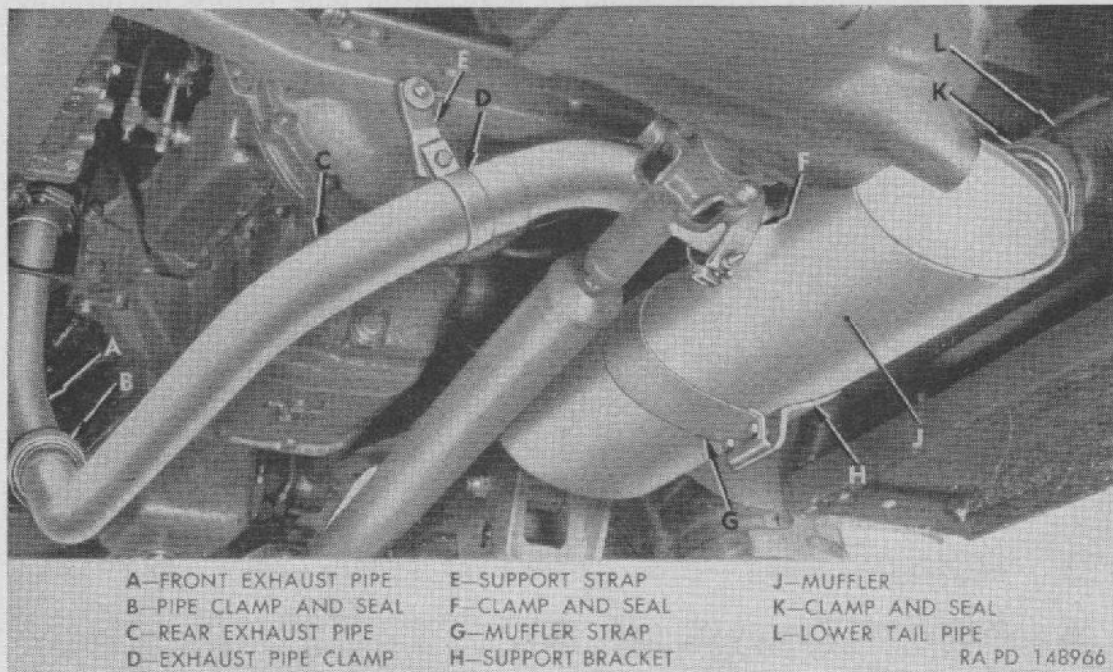

Figure 66. Exhaust pipe and muffler installed.
b. MUFFLER. The muffler assembly is mounted under vehicle at right side and is secured to frame side rail with support bracket and muffler strap (fig. 66).
a. MUFFLER REMOVAL (fig. 66).
- (1) Loosen exhaust pipe clamp bolt nut at the support strap.
- (2) Remove pipe clamps and seals which attach rear exhaust pipe and lower tail pipe to muffler. Pull pipes clear of muffler.
- (3) Remove two upper and two lower bolts and nuts which attach muffler strap to support bracket. Muffler assembly can then be removed.
b. MUFFLER INSTALLATION (fig. 66).
- (1) Position muffler into place in support bracket. Install muffler strap around muffler and attach strap to support bracket with two upper and two lower bolts and nuts. Tighten the two upper bolts and nuts firmly. Tighten the lower two bolts and nuts just enough to support muffler until exhaust pipe and tail pipe can be connected.
- (2) Install rear exhaust pipe to muffler with pipe clamp and seal, using new seal if old one is damaged to such an extent that leaks may occur. Install lower tail pipe to muffler with clamp and seal. Tighten clamp bolt nuts sufficiently to prevent leakage. Tighten bolt and nut which secures exhaust pipe clamp to support strap on cross member.
- (3) Tighten lower bolts and nuts in muffler strap to hold muffler firmly in place in the support bracket.